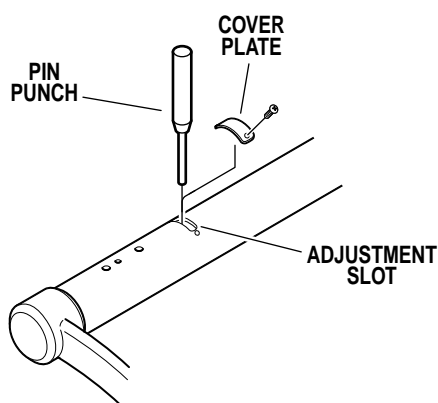

Figure 2-9. Vertical Travel Adjustment
b. The lighthouse should move freely yet maintain its selected position within the range of motion without drifting. If an adjustment is necessary, refer to figure 2-9, and proceed as follows.